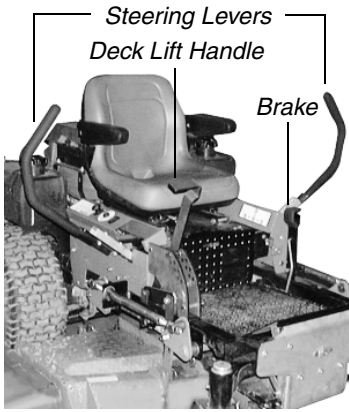

Figure. 3
3. **Left and Right Steering Levers:** (See Figure 3.) These hinged levers open out to the side in the neutral position to permit the operator to be seated or to leave the mower's seat. The operator, when seated, can pull the levers up to the operating position, a comfortable forearm's length away. These levers control all of the movements of the mower. Pushing both levers forward causes the mower to move forward. Pulling both levers back causes the mower to move backward. Pushing one lever ahead of the other lever causes the traction wheel on the side where the lever is ahead to rotate faster than the other traction wheel, making the mower turn toward the side where the lever is behind. When one lever is pushed forward and the other lever pulled back the same amount, one traction wheel will turn in reverse and the mower will turn within its own length.
5. **Parking Brake:** (See Figure 3.) Located on the left side of the traction unit. The handle is an overcenter lever which applies the internal drum-type brake on each drive wheel when the handle is pulled to the rear. The brake must be engaged in order to start the engine.
6. **Deck Lift Handle and Optional Foot Pedal Lift Assist:** (See Figure 3.) Located on the right front corner of the mowing deck. To raise the mowing deck to the transport position, the lever is pulled to the rear and moved inward to lock into a stop for transport. To lower the mowing deck, raise the deck lift handle and move it outward. This allows the handle to move forward, lowering the deck to the cutting position. The foot pedal lift assist (not pictured above) can provide “lift assist” to the hand lever or with “foot effort only”. To provide assistance to the lift handle: remove the hairpin clip from the locking pin and remove the pin from the pedal assembly. Fold the pedal down to the horizontal position so the hole in the pedal aligns with the hole in the lever. Reinstall the locking pin and hairpin clip. Pull on the Lift handle and depress the foot pedal to raise the deck. Lifting with “foot effort only” depress the foot pedal (the hand lever will lock into transport position if fully depressed). To release the lift mechanism depress the foot pedal, move the hand lever outward and slowly reduce foot pedal effort to lower the